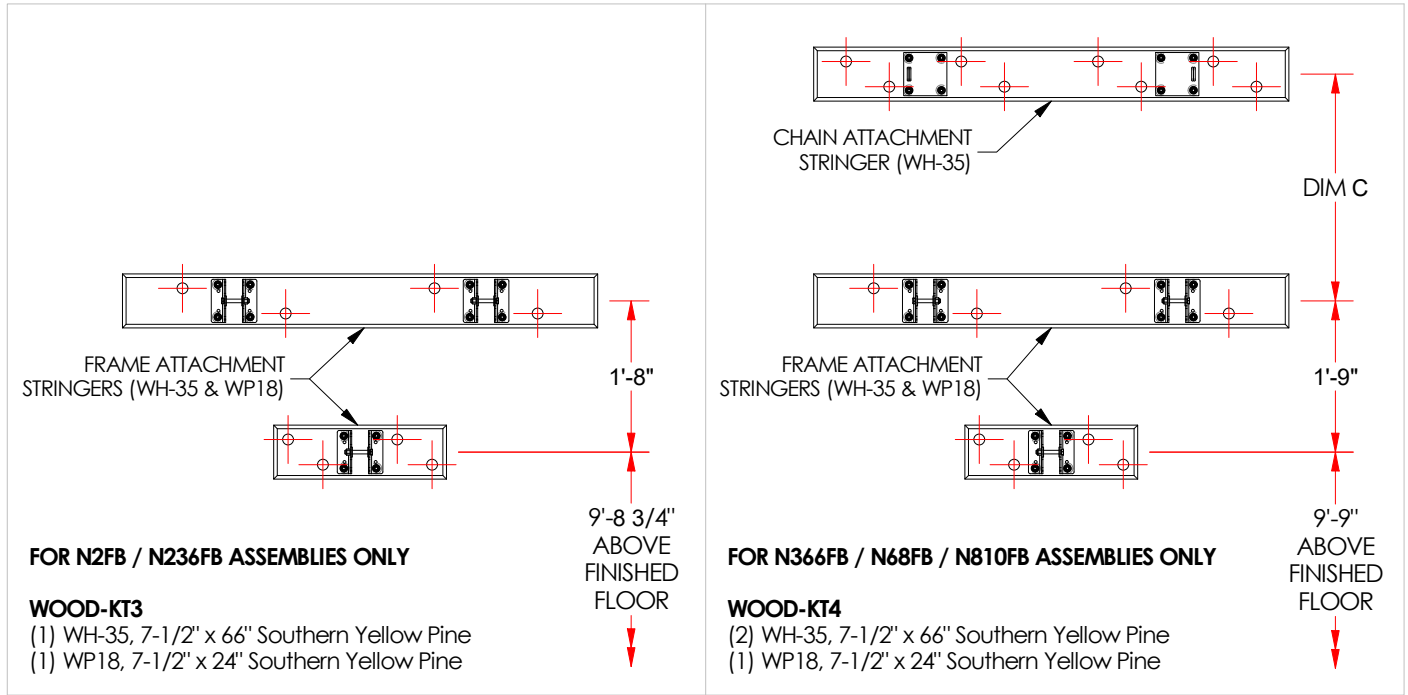

Figure 1: Wood Attachment Kits
1. Each wall mounted backstop is supplied with a wood stringer kit. Determine which kit was supplied with your backstop to determine the necessary installation requirements. Figure 1 illustrates the two stringer kits, WOOD-KT3 for N2FB and N236FB backstops and WOOD-KT4 for N366FB, N68FB, and N810FB backstops.
5. Chain attachments (if equipped) are achieved using a 66" long stringer (WH-35). The chain attachments see the majority of the loading for wall mounted units. When anchoring the stringer to the wall, (8) eight anchors are required per stringer.
6. The lower frame attachment is achieved using a 24" long stringer (WP18). The upper frame attachment is achieved using a 66" long stringer (WH-35). For either stringer, a minimum of (4) four anchors is required per stringer.
7. Stagger the anchors from side to side to obtain optimal attachments and to protect against splitting the stringers. Exact anchor locations cannot be predetermined and is dependent on the wall structure. As a guideline, locate the holes approximately 2" inward from the closest side of the stringer. Use a repeated pattern throughout and locate the anchors close to the attachment fittings. Refer to Figure 1 as an example for anchor locations.